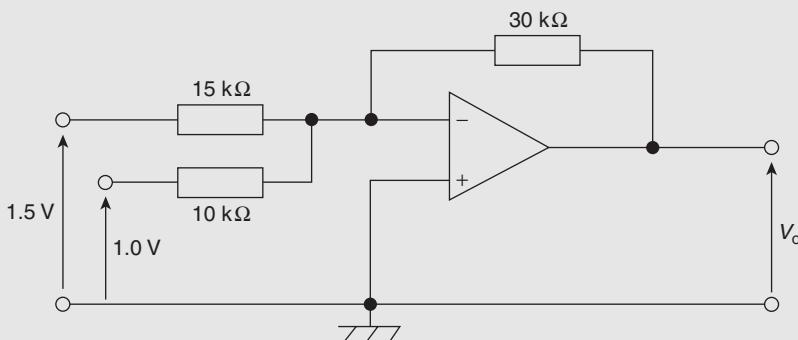

Figure RT5.1
- The power taken by a series inductive circuit when connected to a 100 V, 100 Hz supply is 250 W and the current is 5 A. Calculate (a) the resistance, (b) the impedance, (c) the reactance, (d) the power factor, and (e) the phase angle between voltage and current. (9)
- A coil of resistance 20  $\Omega$  and inductance 200 mH is connected in parallel with a 4  $\mu\text{F}$  capacitor across a 50 V, variable frequency supply. Calculate (a) the resonant frequency, (b) the dynamic resistance, (c) the current at resonance, and (d) the Q-factor at resonance. (10)
- A series circuit comprises a coil of resistance 30  $\Omega$  and inductance 50 mH, and a 2500 pF capacitor. Determine the Q-factor of the circuit at resonance. (4)
- The winding of an electromagnet has an inductance of 110 mH and a resistance of 5.5  $\Omega$ . When it is connected to a 110 V, d.c. supply, calculate (a) the steady state value of current flowing in the winding, (b) the time constant of the circuit, (c) the value of the induced e.m.f. after 0.01 s, (d) the time for the current to rise to 75 per cent of its final value, and (e) the value of the current after 0.02 s. (11)
- A single-phase motor takes 30 A at a power factor of 0.65 lagging from a 300 V, 50 Hz supply. Calculate (a) the current taken by a capacitor connected in parallel with the motor to correct the power factor to unity, and (b) the value of the supply current after power factor correction. (7)
- For the summing operational amplifier shown in Figure RT5.1, determine the value of the output voltage,  $V_0$  (3)